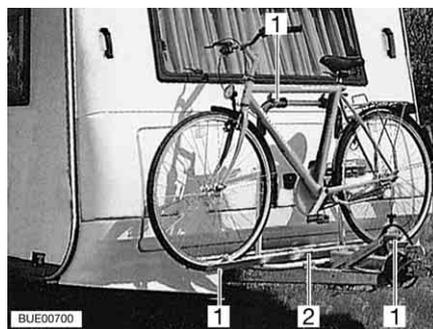

Fig. 9 Front bike rack
- Put the bikes on to the bike rack (Fig. 9,2) and secure them with quick straps (Fig. 9,1).